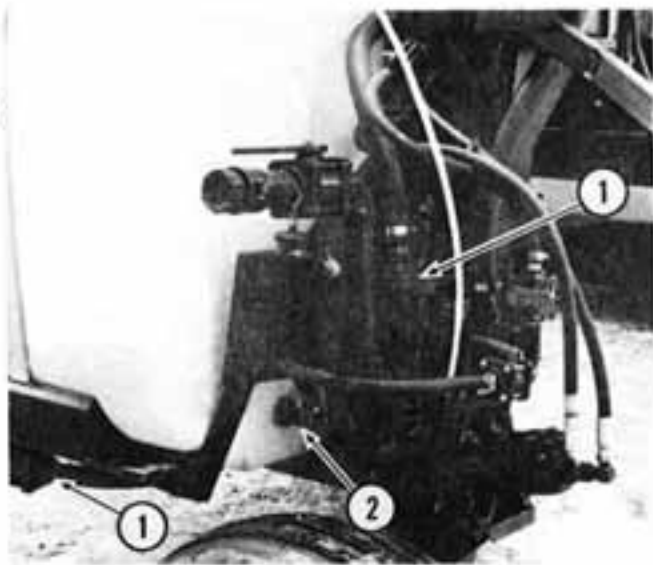

Figure 1
2. Completely open the tank valves. See Item 1; Figure 1.
NOTICE: Shipped with the machine are three different nozzles that can be used for more or less agitation activity. See Item 2; Figure 1.